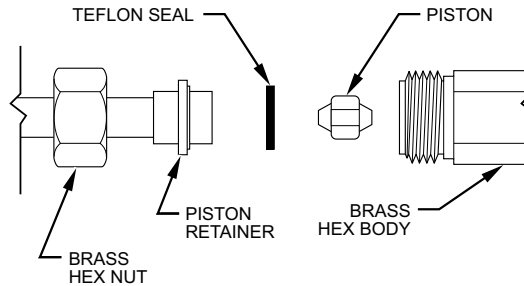

Fig. 26 – Refrigerant Flow-Control Device (For FB and FMA4P)
2. Recover remaining refrigerant from tubing and coil through gage port on vapor-tube service valve. Disconnect refrigerant (liquid) tube from piston body (Fig. 26).